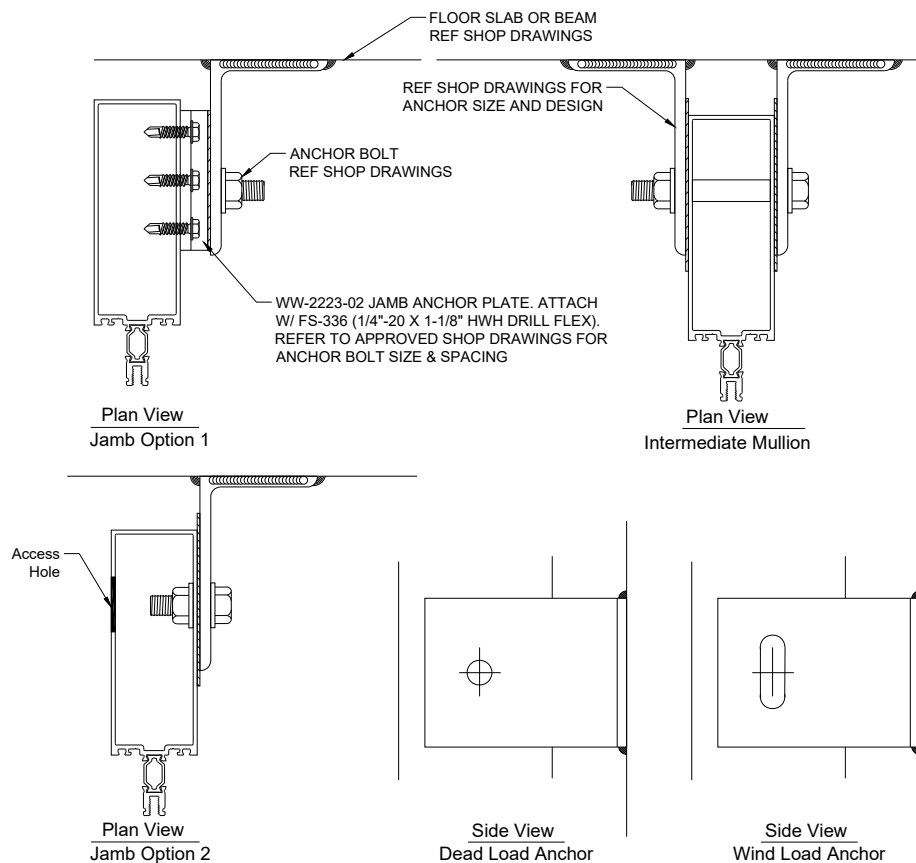

Figure 39: Face of Slab Anchoring Details
- 12.3 Anchor Mullion to floor slab or beam. See *Figure 39*. Do not over tighten bolt(s). For expansion anchors, back off nut 1/4 turn and stake bolt.
- 13.3 Anchor the mullion to floor slab or beam. See Figure 39. Do not over tighten bolt(s).